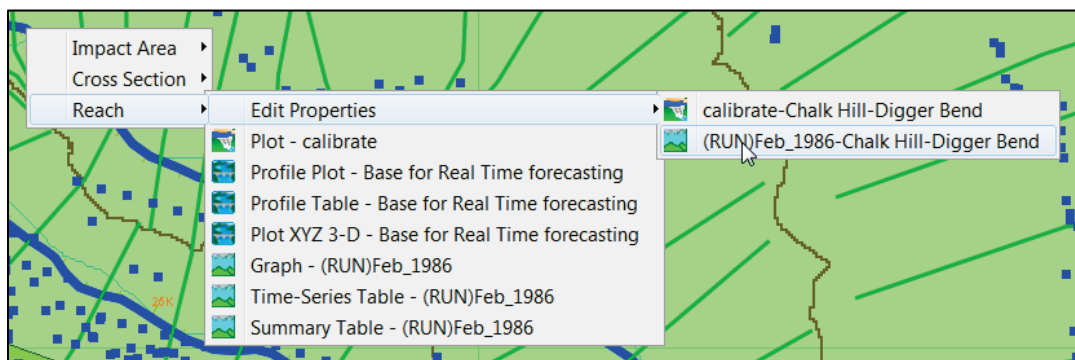

Figure L.6 Routing Reach Element Shortcut Menu
1. From the simulation map window, right-click on an HMS routing reach model element (blue line) on the schematic, a shortcut menu will display (Figure L.6). From the shortcut menu, point to **Reach**, since there is more than reach element available (i.e., HMS, ResSim, RAS), point to **Edit Properties**, click on the available HMS model alternative (e.g., (RUN)Feb\_1986-Chalk Hill-Digger Bend).